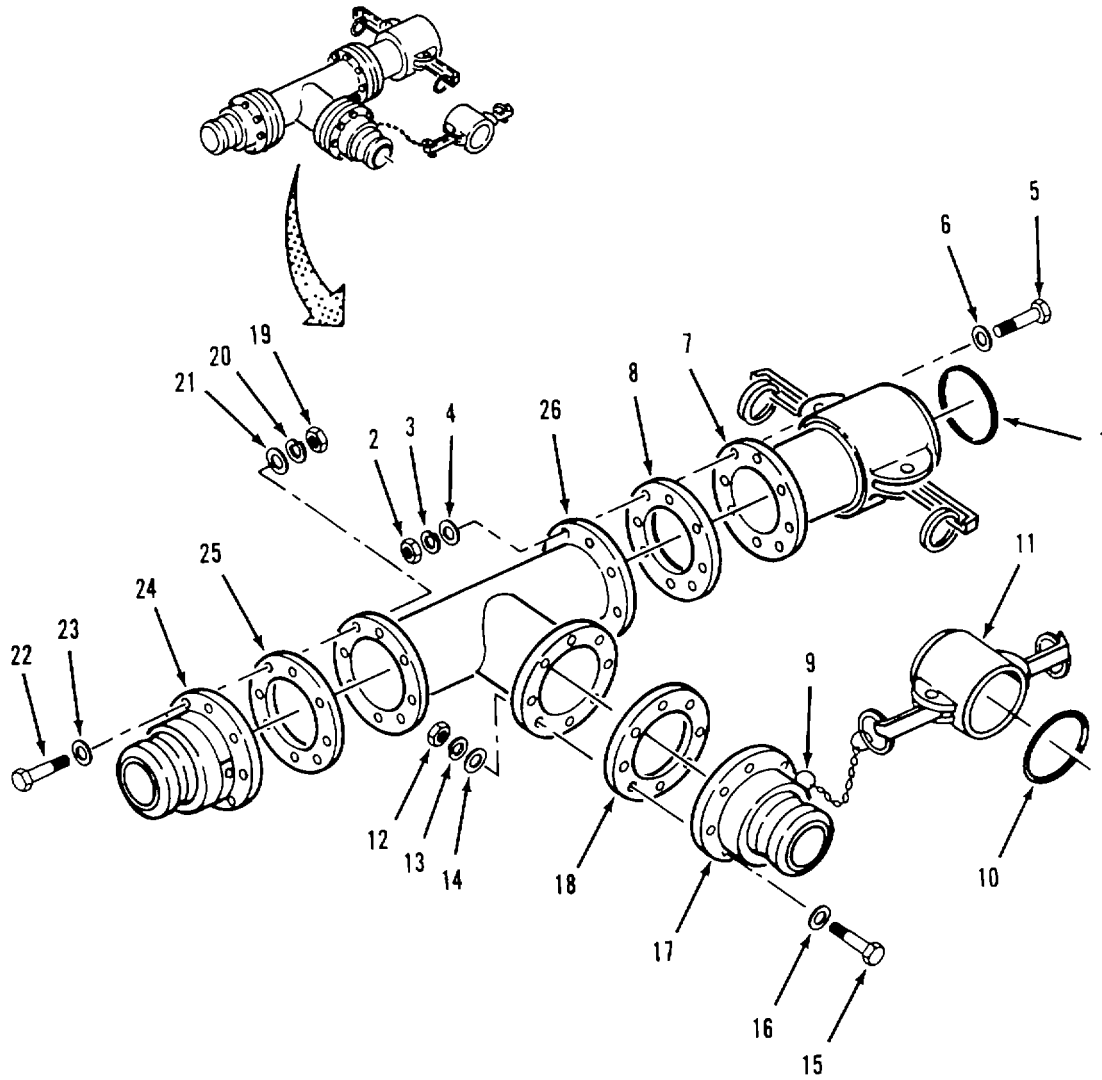

Figure 4-21. Tee Assembly (9112-Y2) Disassembly.
- a. Disassembly. Refer to figure 4-21.
- (1) Remove gasket (1) from female coupling (7).
- (2) Remove eight nuts (2), lockwashers (3), flat washers (4) and screws (5) and flat washers (6).
- (3) Separate female coupling (7) and gasket (8) from tee (26).
- (4) Disconnect ring (9) from male coupling (17) and remove cap (11).
- (5) Remove gasket (10) from cap (11).
- (6) Remove eight nuts (12), lockwashers (13), flat washers (14), screws (15) and flat washers (16).
- (7) Separate male coupling (17) and gasket (18) from tee (26).
- (8) Remove eight nuts (19), lockwashers (20), flat washers (21), screws (22) and flat washers (23).
- (9) Separate male coupling (24) and gasket (25) from tee (26).